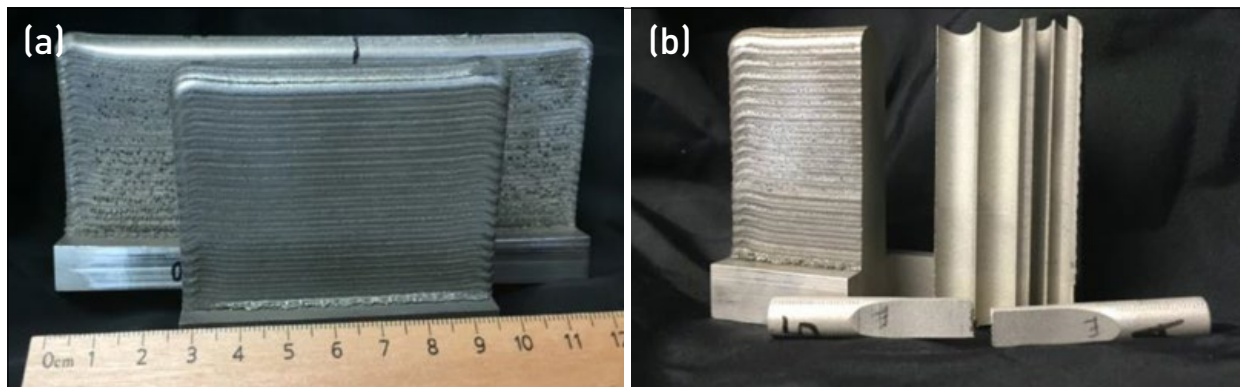

Fig. 7 Laser directed energy deposited samples (a) and machined to extract tensile specimen in a vertical orientation (b) [2]
Based on these results, a laser power of 2250 W, a travel speed of 63.5 cm/min, with an overlap of 2.032 mm and a z-height offset of 1.27 mm was selected for further evaluation. These parameters were used to fabricate wall structures on an Elektron®43 substrate of 15.2 cm x 15.2 cm x 1.27 cm as shown in Fig. 7. A series of rectangular build geometries 7.6 cm (L) x 5.08 cm (H) x 1.27 cm (W) and 15.2 cm (L) x 5.08 cm (H) x 1.27 cm (W) were fabricated, from which tensile and metallographic